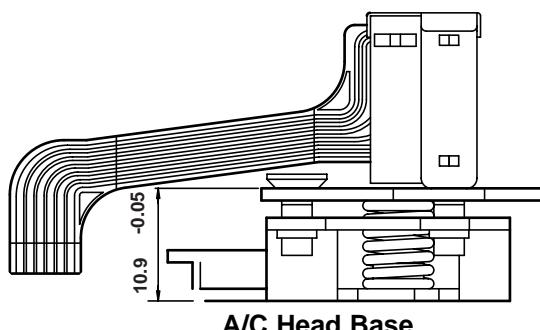

Fig. C-5-1
- 1) Initially adjust the Base Assembly A/C Head as shown Fig. C-5-1 by using the Height Adjustment Screw(B).